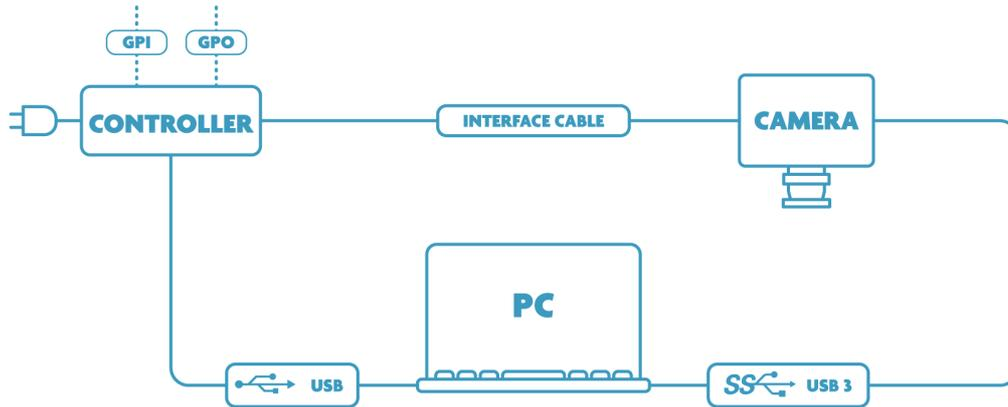

Figure 51 Connections between snapscan camera, snapscan controller and PC (Step 7.5b)
- b. The connections between the snapscan camera, the snapscan controller and the PC should be as shown in Figure 51.